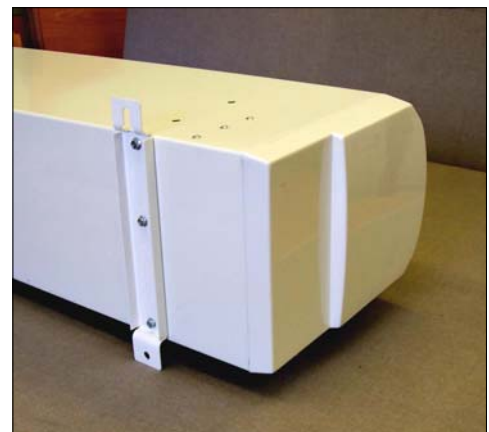

Fig 2
- Step 1** Bolt all wall brackets to the rear face of the unit as shown in Fig 2, using the M6 fixing bolts supplied.